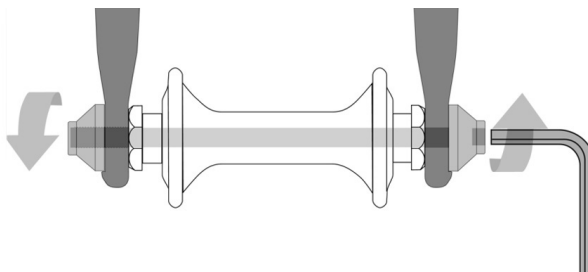

figure 9
- Thru-Bolt System: This system uses a hollow axle and skewer similar to a Quick Release. However, it is tightened using a nut and a tool (e.g., hex key) or a threaded lever, rather than a cam mechanism. (See Figure 9)